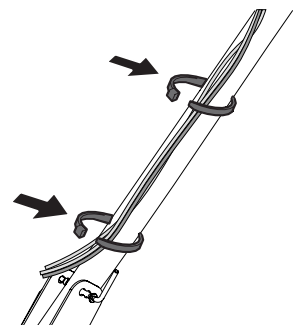

Figure 4
2. Route the emergency stop control wire up the handle shaft and secure with cable ties slightly above the lower handle adjust and slightly below the handle panel. Bundle the emergency stop control wire with the drive cables previously installed. See Figure 4.